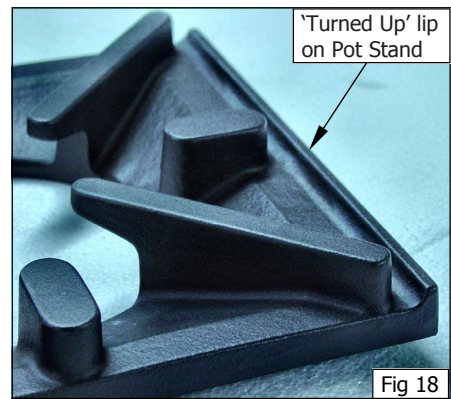

Fig 18
2. Remove the trivets from the top of the appliance, taking note that the trivets are manufactured with a lip on one edge, the lip must always be fitted to the outer edge (front and back) of the range. (See Fig 18)
- Refit the trivets to the top of the appliance taking note that the trivets are manufactured with a lip on one edge, the lip must always be fitted to the outer edge (front and back) of the cook top. (See Fig 18).
- Remove the trivets from the top of the appliance, taking note that the trivets are manufactured with a lip on one edge, the lip must always be fitted to the outer edge (front and back) of the cook top. (See Fig 18).
- j. Refit the trivets to the top of the appliance taking note that the trivets are manufactured with a lip on one edge, the lip must always be fitted to the outer edge (front and back) of the cook top. (see Fig 18).